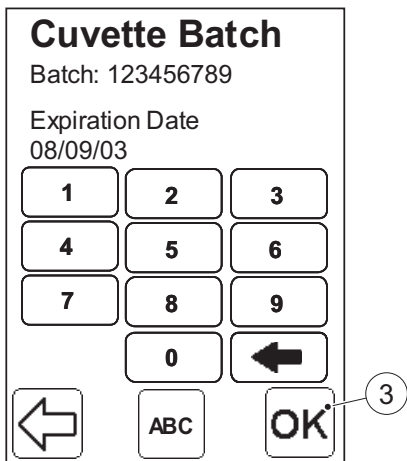

FIGURE 3-17
- c) If the Batch No. was entered via the Barcode Scanner from the barcode on the Cuvette vial, *FIGURE 3-18* will be displayed, otherwise *FIGURE 3-17* will be displayed.